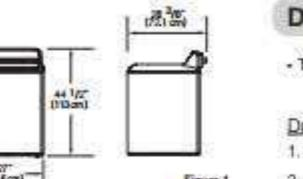

Figure 1
2. Considering the size of the product, perform the installation at the installation site (Figure 1).